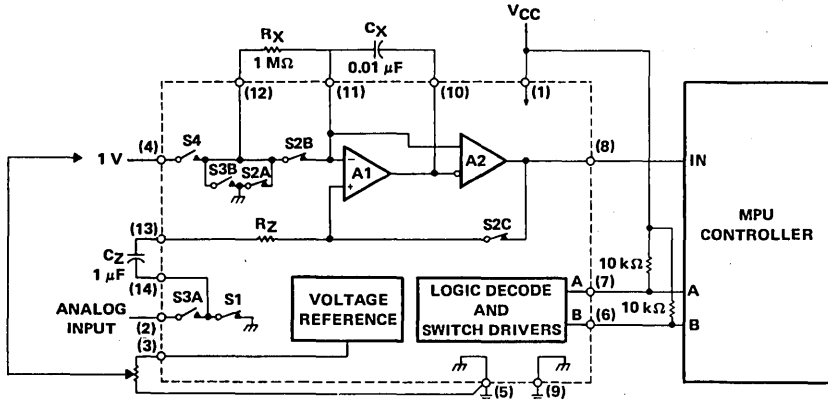
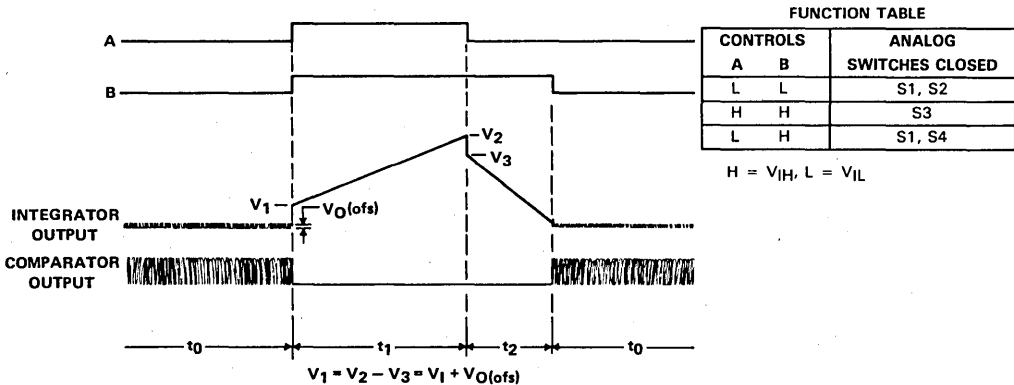

FIGURE 1. FUNCTIONAL BLOCK DIAGRAM OF TL505C INTERFACE WITH A MICROPROCESSOR SYSTEM
FIGURE 2. CONVERSION PROCESS TIMING DIAGRAMS
**electrical characteristics,  $V_{CC} = 9\text{ V}$ ,  $V_{ref(I)} = 1\text{ V}$ ,  $T_A = 25^\circ\text{C}$ , connected as shown in Figure 1 (unless otherwise noted)**
**system electrical characteristics,  $V_{CC} = 9\text{ V}$ ,  $V_{ref(I)} = 1\text{ V}$ ,  $T_A = 25^\circ\text{C}$ , connected as shown in Figure 1 (unless otherwise noted)**
A block diagram of an MPU system utilizing the TL505C is shown in Figure 1. The TL505C operates in a modified positive-integration three-step dual-slope conversion mode. The A/D converter waveforms during the conversion process are illustrated in Figure 2.
At the conclusion of  $t_0$ , the MPU takes the A and B inputs both high closing S3 and opening all other switches. The input signal  $V_I$  is applied to the noninverting input of A1 through  $C_Z$ .  $V_I$  is then positively integrated by A1. Since the offset of A1 is stored in  $C_Z$ , the change in voltage across  $C_X$  will be due to only the input voltage. It should be noted that since the input is integrated in a positive integration during  $t_1$ , the output of A1 will be the sum of the input voltage, the integral of the input voltage, and the comparator offset, as shown in Figure 2. The change in voltage across capacitor  $C_X$  ( $V_{CX}$ ) during  $t_1$  is given by